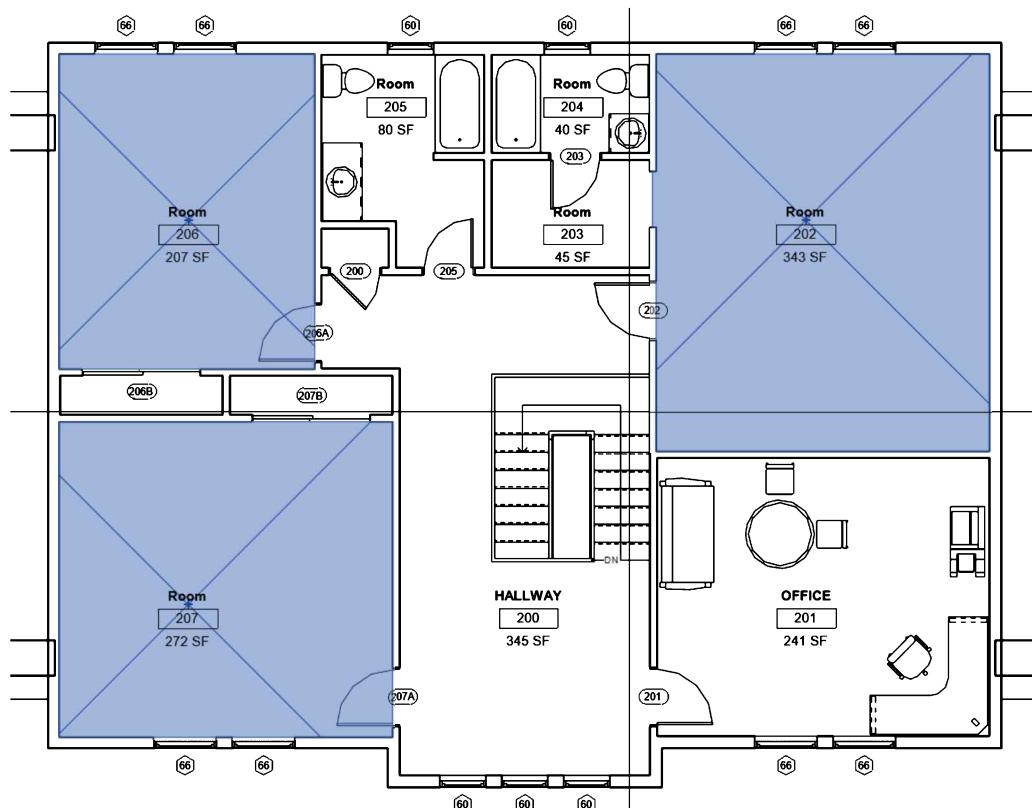

FIGURE 13-3.5 Second Floor Plan – Rooms selected
- In the **Second Floor** plan view, select the **Rooms** (not the **Room Tags**) for all bedrooms (three total); move the cursor near the **Room Tag** until you see the room highlight with an “X” (Figure 13-3.5).